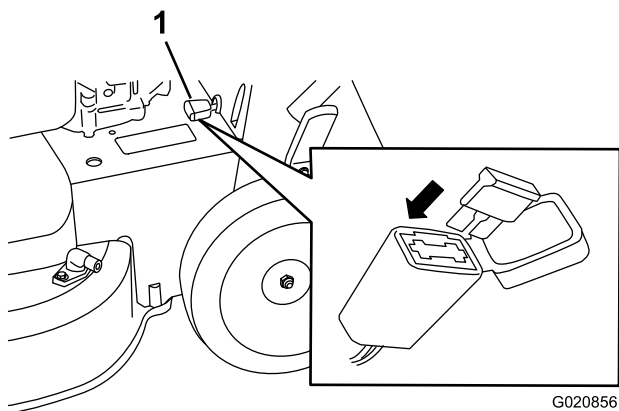

Figure 34
1. Open the sealed fuse holder and replace the fuse (Figure 34).